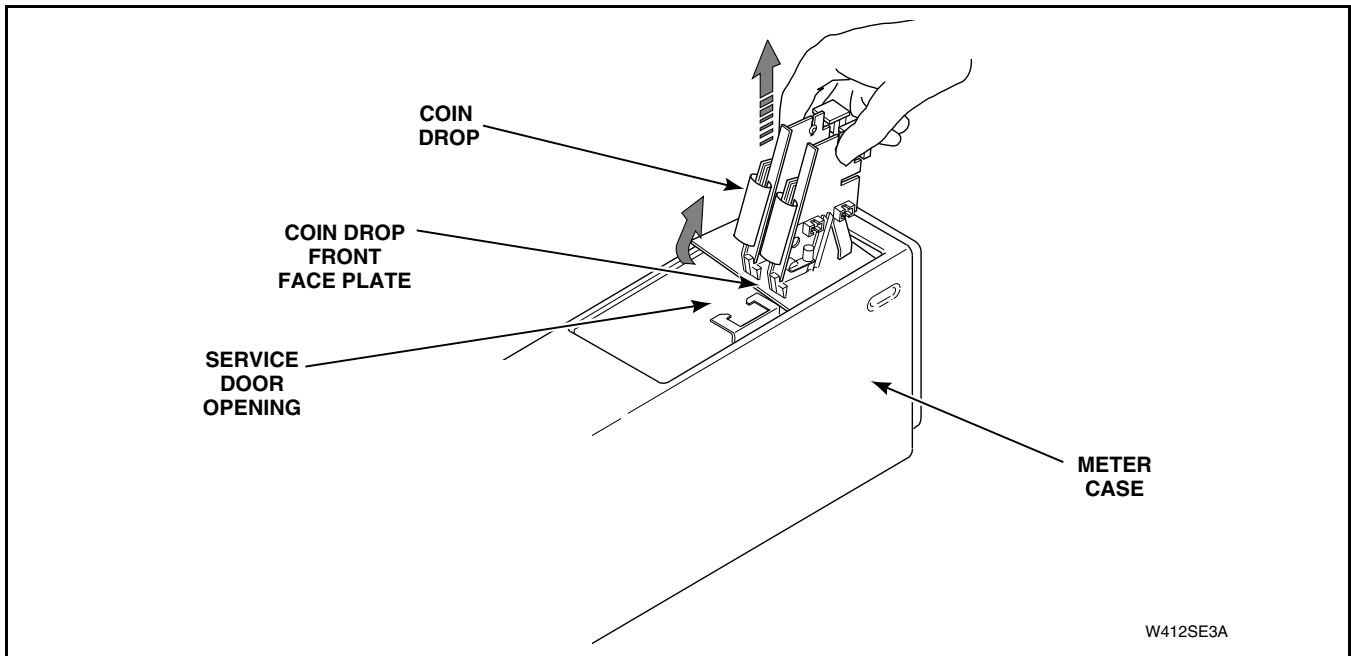

Figure 19
(11) Carefully lift complete coin drop straight up and out of meter case. Refer to *Figure 19*.
NOTE: When lifting drop out of meter case, tip drop slightly so front face plate clears service door opening. Refer to *Figure 19*.